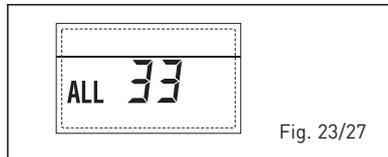

Fig. 23/27
**- ANOMALIE COMMUNICATION CARTE RS-485 EN MODE CASCADE "ALL 34" (fig. 23/28)**